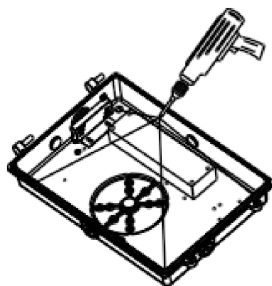

Fig. 11
4. Drill through the 4 mounting holes on the fixture using an electric drill. (Fig. 11)